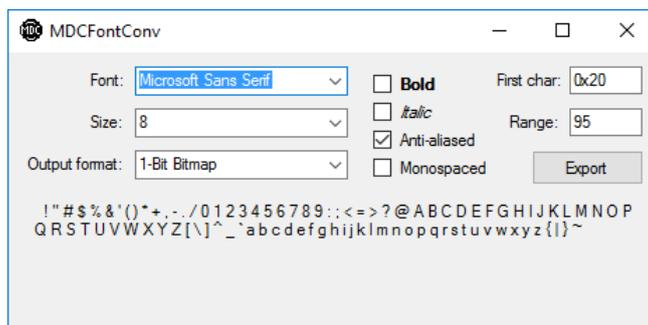

Figure 4.1 MDCFontConv.exe
(1) Launch MDCFontConv.exe and set the font information parameters.(See Figure 4.1) Click the Export button and select a folder to store the output files (.h, .mdcfont).